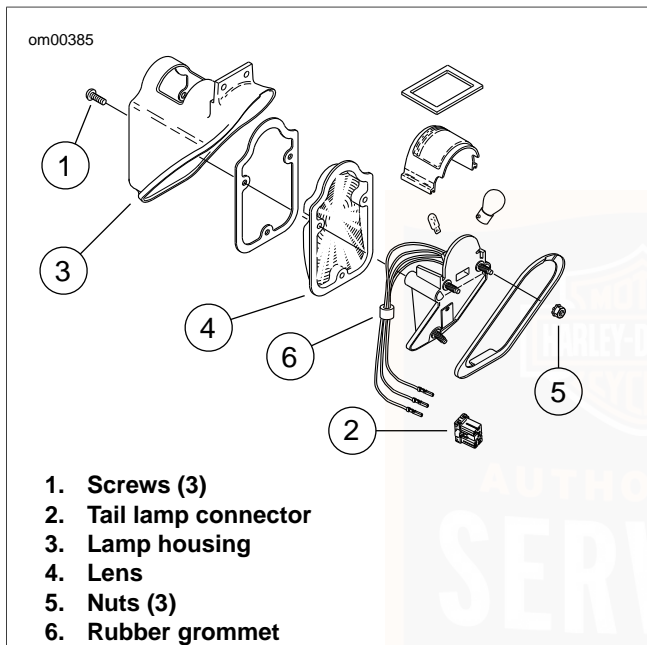

Figure 72. Tail Lamp Assembly: FLSTSC/FLSTN
1. See Figure 72. Remove the lens.